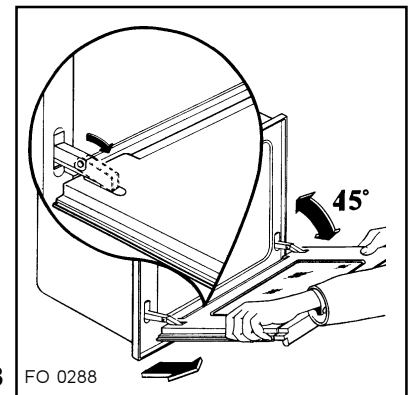

Fig. 8 FO 0288
- b) find the hinges linking the door to the oven (fig. 8);
- c) unlock and turn the small levers located on the two hinges (fig. 8);
- e) gently pull the oven door off its site (fig.8);